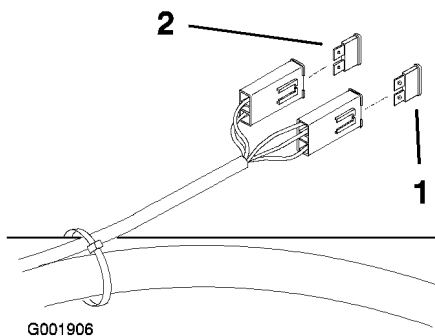

Figure 52
2. To replace a fuse, pull out on the fuse to remove it (Figure 52).